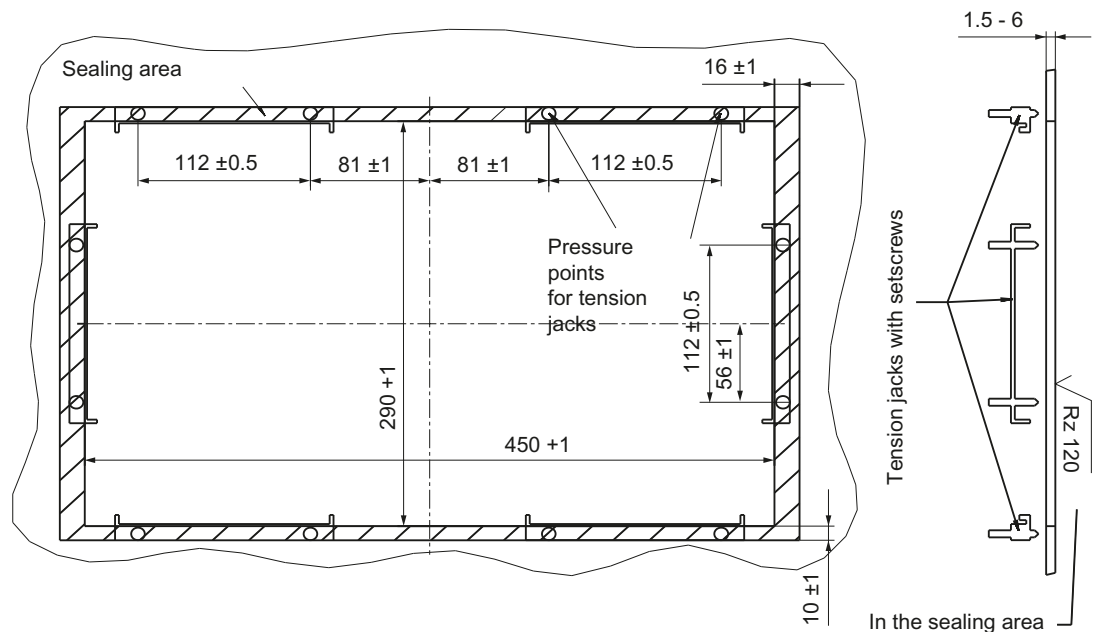

Figure 6-3 Dimension sheet for installing the OP 015 operator panel front
1. Insert the assembled components (operator panel front and PCU) from the front into the panel cutout (see Figure 6-3 Dimension sheet for installing the OP 015 operator panel front (Page 89)).